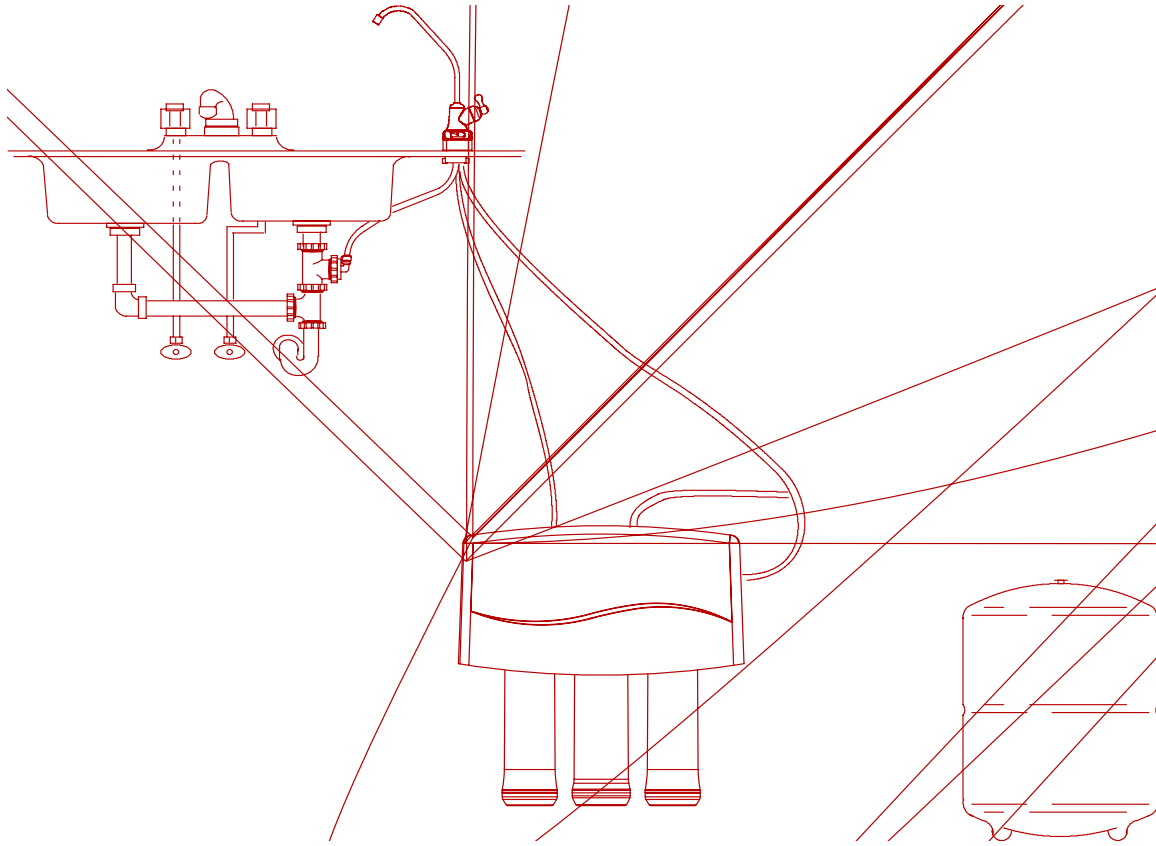

Figure 21
5. Locate the 1/4" red tubing. One end is connected to the RO Filter assembly. See Figure 21. Locate the loose end.
- B. Cut the loose end of the red tube square and to length. See Figure 21.